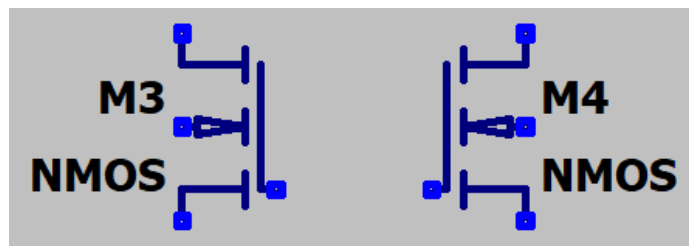

Fig. 1. NMOS4 transistors
1. Add two **nmos4** transistors, mirror the transistor on the left as in Fig. 1.